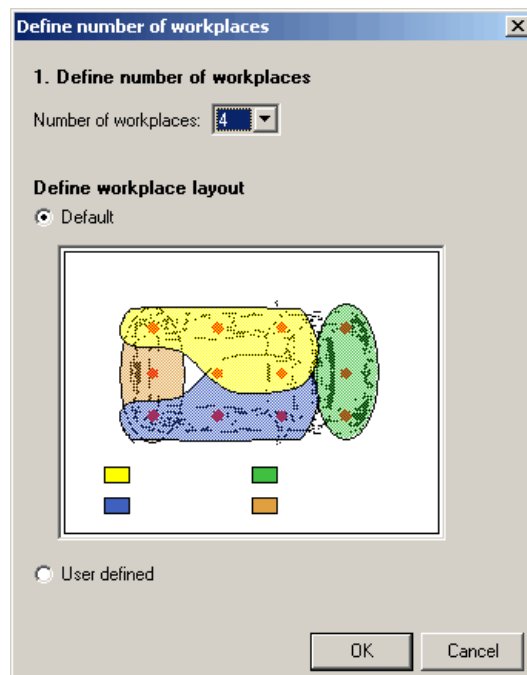

Figure 102: Selecting Standard Default Setting of Balancing Process
- 2) Select the number of workplaces. Workplaces are highlighted. *Please refer to the Figure 102.*